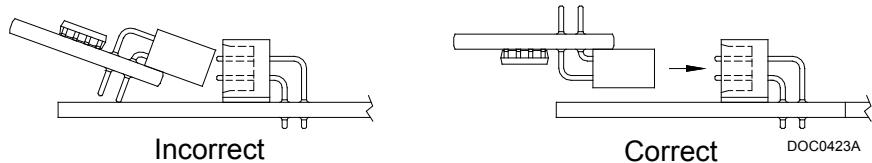

Figure 2. License Key Installation
6. Press the license key into the terminal unit it is firmly seated (Refer to *Figure 2*).